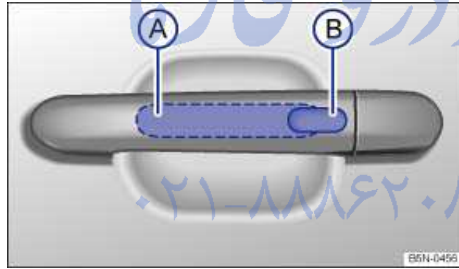

Fig. 28 Keyless Access system: Sensor for unlocking A on the inside of the front door handles. Sensor for locking B on the outside of the door handles.
All you have to do is touch a sensor surface on one of the outside door handles ⇒ fig. 28 or push the Volkswagen emblem on the rear hatch ⇒ *Rear hatch* when a valid remote control vehicle key is within range ⇒ .
- Keyless Entry: Unlocking the vehicle with the sensor surfaces on the outside door handles of the driver or passenger door ⇒ fig. 28 \(A\) or by using the Volkswagen emblem on the rear hatch.
Remove your finger from the lock sensor surface => fig. 28 \(B\) to stop the function. If you touch the unlock sensor surface (A) on the inside of the door handle immediately after releasing the lock sensor surface (B) (arrow), all of the windows will open (safety function).